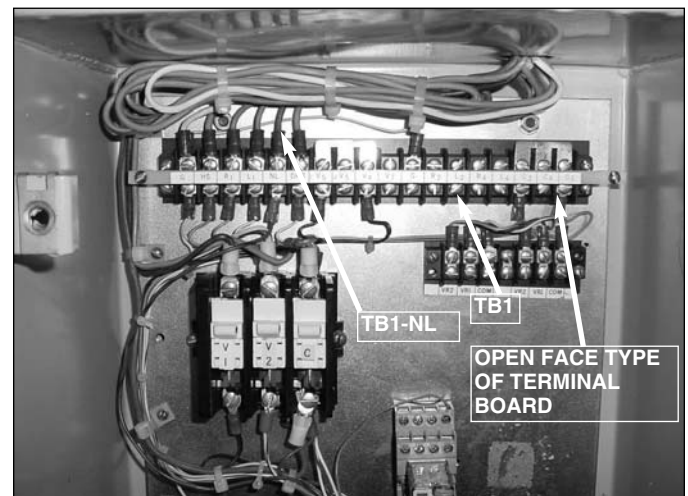

Figure 2.
1. Locate the White/Red Neutral Light lead on TB1. TB1 is the terminal board located at the top of the back panel. See Figure 2.
7. Using a wire-crimping tool, crimp an Item 3, pre-insulated terminals to one end of each of the supplied lead assemblies items 4, 5, 6 & 7, if the terminal boards on the back panel is an open face screw type terminal boards (See Figure 2).